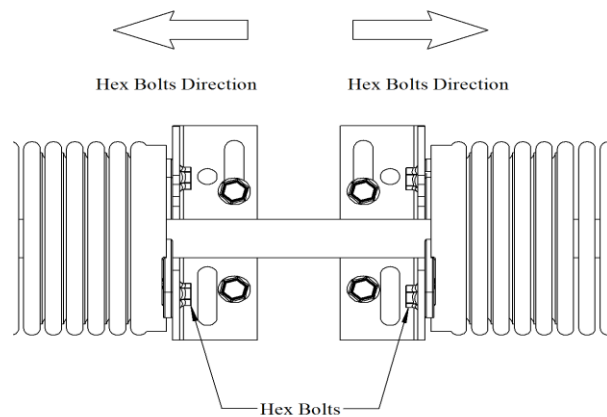

Figure 14
- c. Attach Torsion Springs to Spring Anchors ensuring that the shaft is between 5 ¼" – 5 ½" off the plane of the mounting surface to the center of the shaft. **(SEE FIGURE 14)**